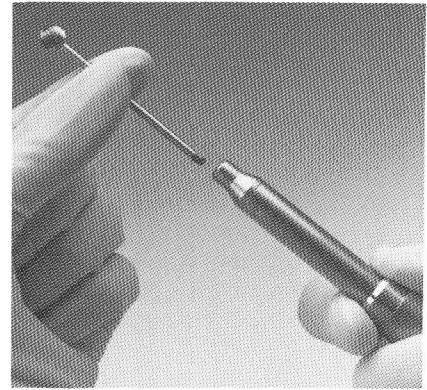

Figure 22
1. Pull back locking sleeve fully. See Figure 22.